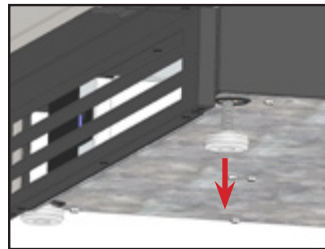

FIG. 3. Remove the existing leveling legs.
2. Remove the existing standard leveling legs. See fig. 3.